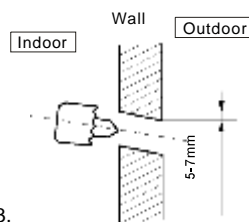

Fig.3
3. Drill the piping hole at either the right or the left and the hole should be slightly slanted to the outdoor side, so that the outside end is lower than inside end, see Fig.3.